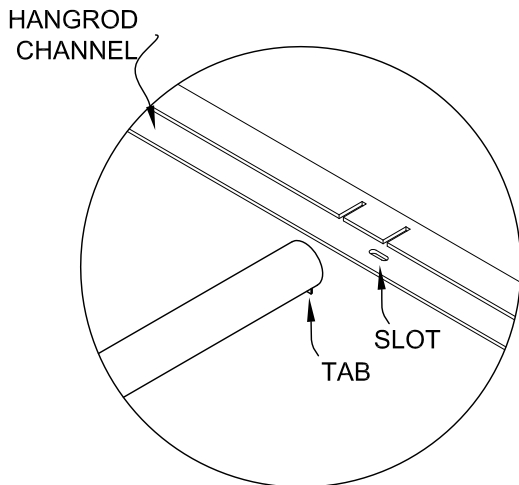

FIGURE 7
1. TILT HANGROD (HRP) UNTIL TAB IS POSITIONED INTO HOLE OF THE HANGROD CHANNEL (HRBT) AT DESIRED LOCATION (FIGURE 7). INSERT HANGROD (HRP) INTO OTHER HANGROD CHANNEL (HRBT) TO MAKE A HANGROD ASSEMBLY (FIGURE 8)